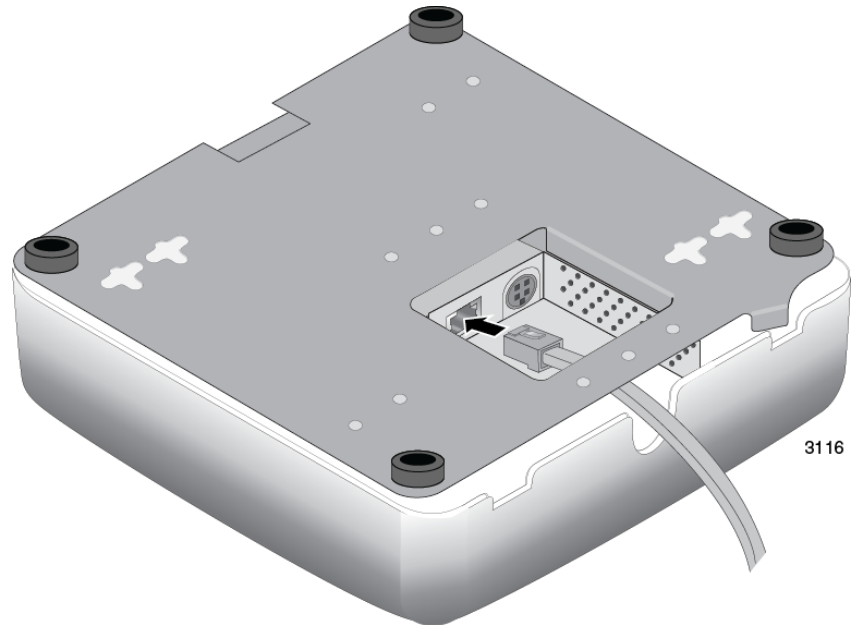

Figure 4. Connecting the Network Cable for Table or Desktop Installation
3. Route a network cable through the notch in the cover and under the bottom panel, and connect it to the LAN port on the access point. Refer to Figure 4. The specifications of the cable are listed in Table 2 on page 22.